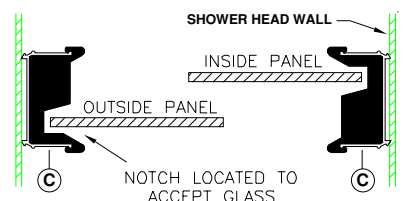

figure 6
10. Attach Panel Bumpers (F) to Wall Jambs using a 834P Installation Screw (G). Please note that notches on bumpers are positioned so as to accept glass insertion, see figure 6.